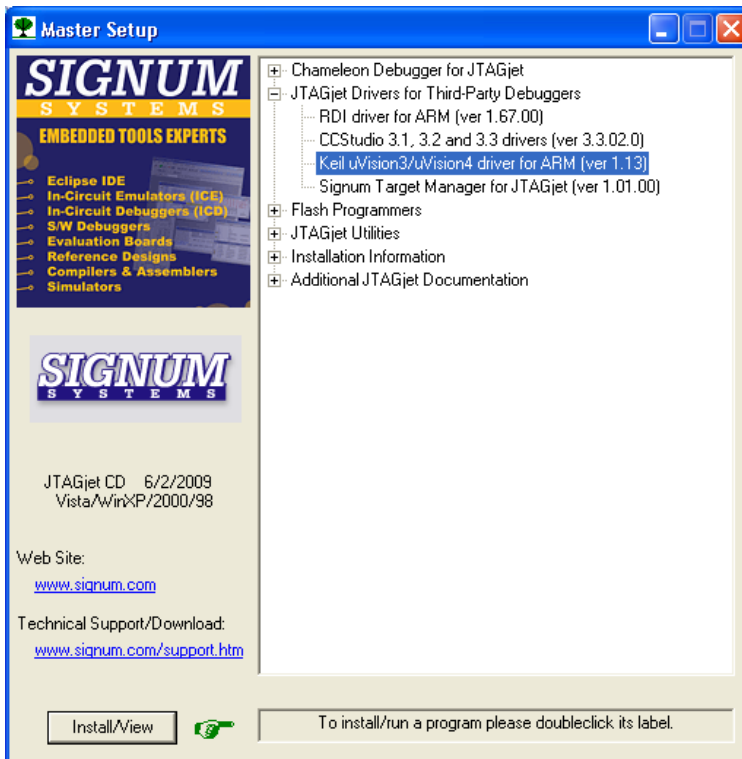

FIGURE 1 Master Setup dialog box.
1. Insert the Signum *JTAGjet* CD into the CD-ROM drive. In the Master Setup dialog box, select JTAGjet Drivers for Third-Party Debuggers > Keil μ Vision3/ μ Vision4 Driver for ARM (Figure 1).